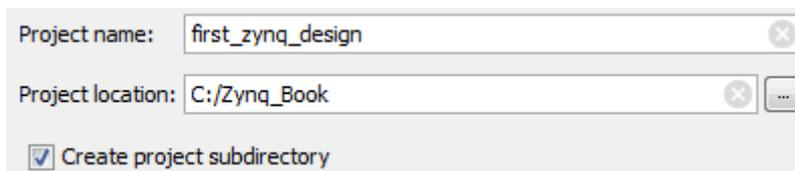

Figure 1.2: New Project Dialogue
- (c) Select the option to **Create New Project** and the *New Project Wizard* will open, as in Figure 1.2.